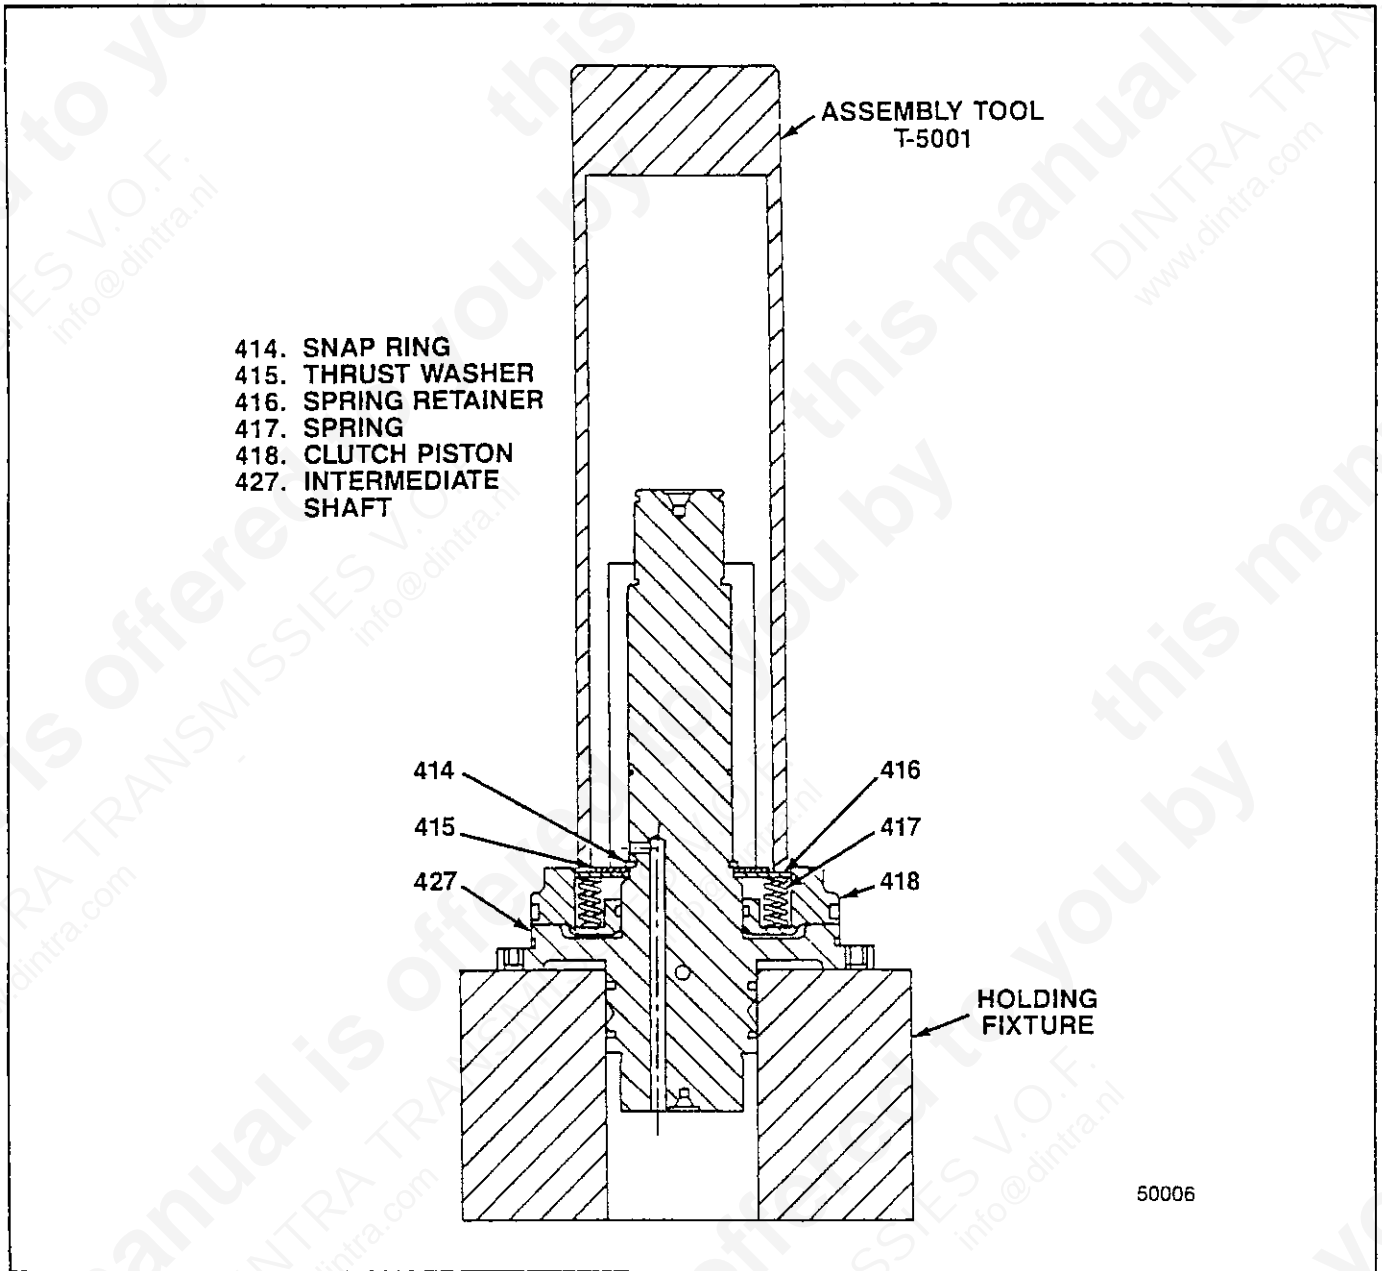

Figure 3-16. Removing Snap Ring
1. Bend down tabs on lock plates (412). Remove twelve bolts (411) and six lock plates (412).
2. Remove clutch gear cylinder (413) from intermediate shaft (427).
3. Support intermediate shaft (427) in suitable holding fixture (see figure 3-16) in arbor press. Using assembly tool T-5001, press down on spring retainer (416) to compress springs (417) slightly. Remove snap ring (414).
4. Slowly release arbor press, allowing springs (417) to expand. Remove assembly tool, thrust washer (415), spring retainer (416) and sixteen springs (417). Remove shaft assembly from arbor press and holding fixture.
5. Remove clutch piston (418) from intermediate shaft (427). Remove sealing ring assembly (419), consisting of sealing ring (420) and o-ring (421), from groove in piston OD. Remove sealing ring assembly (422), consisting of sealing ring (423) and o-ring (424), from groove in piston ID.
6. Remove o-ring (425) and seal rings (426) from intermediate shaft (427).